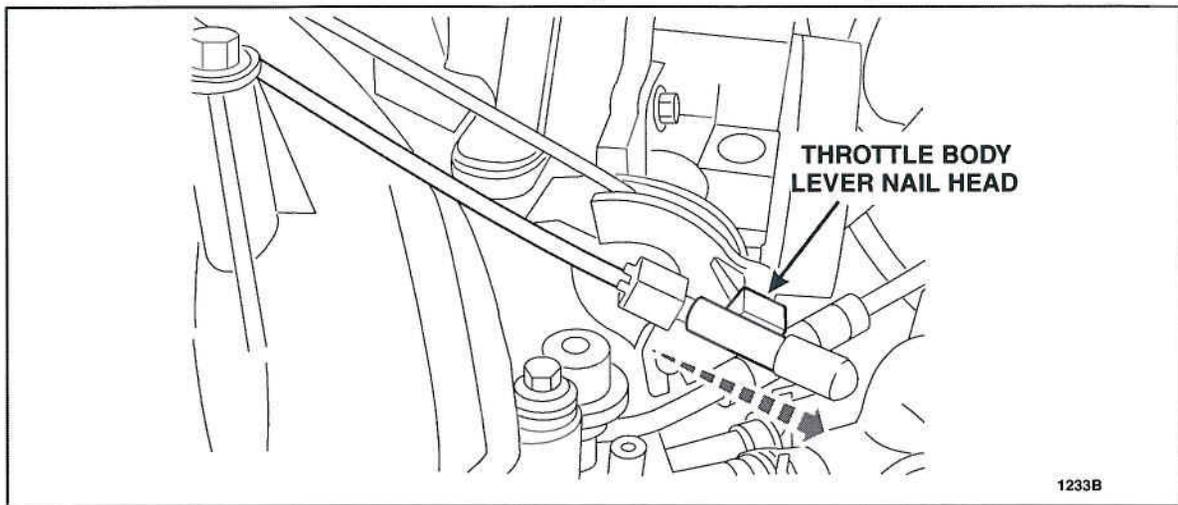

FIGURE 2
- Slide the speed control cable off of the throttle body lever nail head. See Figure 2.